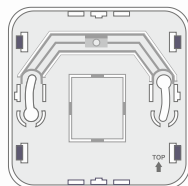

Fig. 2c
- Install the bottom part to the selected area as shown in Fig. 2c with the use of two screws. Please note the mark (arrow marked with the word "TOP") indicating the correct orientation of the bottom part of the housing.